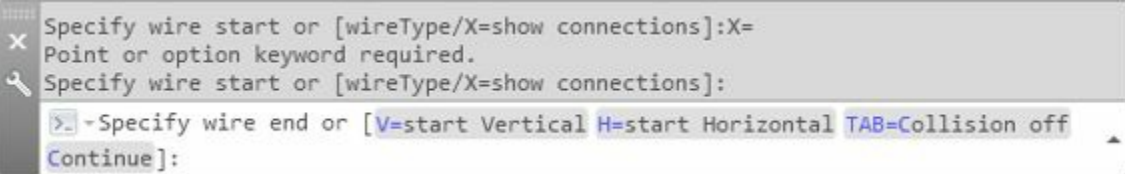

Figure-4. Command prompt after specifying start point
- Click in the drawing area to specify the start point of the wire. You will be asked to specify the end point of the wire and the command prompt will display as shown in Figure-4.